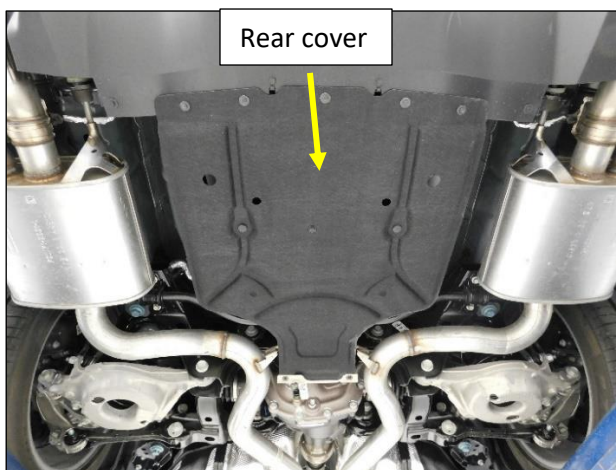

Figure 1
2. Remove the rear cover and mounting bracket, as shown in **Fig. 1 & 2.**